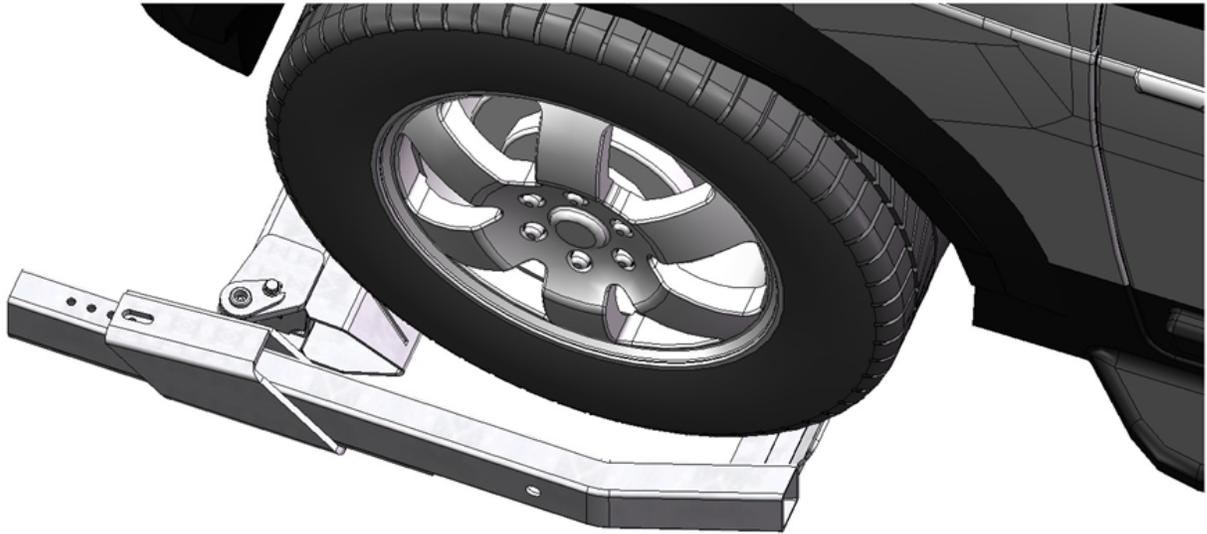

FIGURE 41 – INSERTING THE L-ARMS AND RETAINING PINS
4. Insert the wheel lift L-arms into the T-bar by placing them against the rear of the tires and on the outside of the wheels, as shown in Figure 41. Insert the retaining pins. The L-arms may have to be adjusted to line up properly with the holes for the pins.